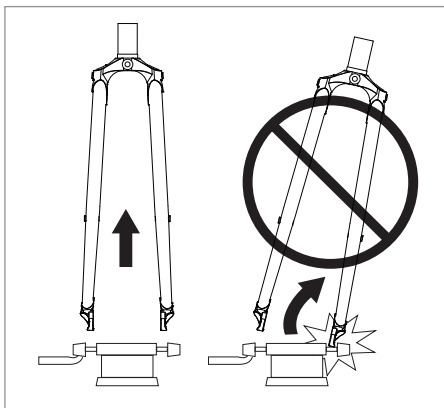

Figure 9
- To remove the bicycle, lift the fork straight up so the dropouts disengage evenly. Tilting the bicycle off the rack can damage the dropouts (Fig. 9).